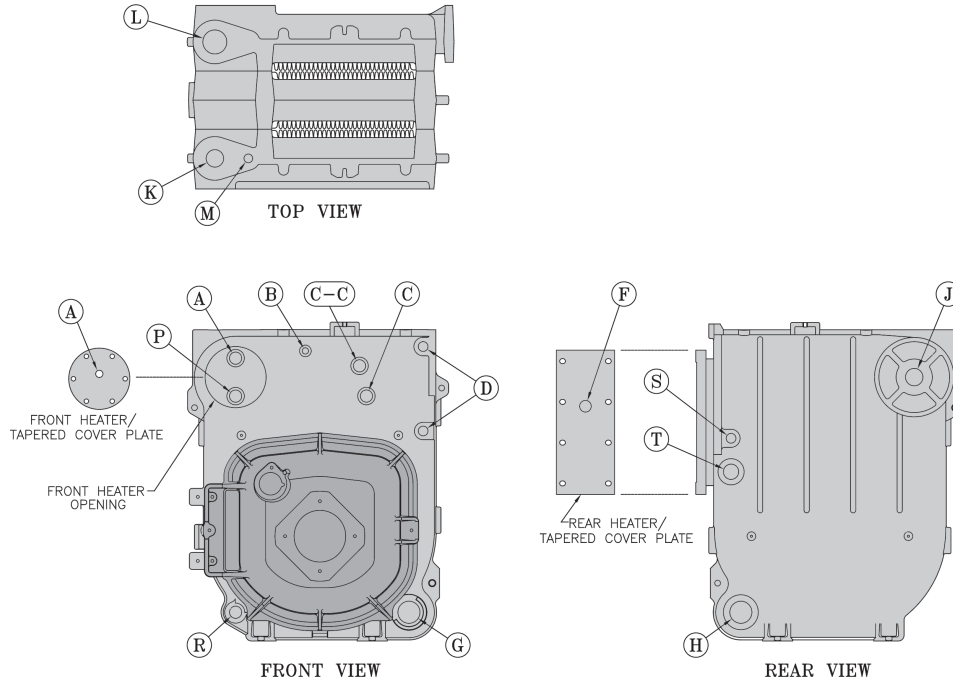

Figure 5: Boiler Tapping Locations and Usage (Knockdown Boilers Only)
Remove gauge, valve and plugs from those tappings to be used. Leave other tappings plugged or bushed according to Figure 5.
H. INSTALL TRIM. The following steam or water trim will be concealed or inaccessible after boiler jacket is installed, see Figure 5 for boiler tapping locations and usage.
2. Lower front section tapping "G" is used for standard return on water boilers, see Figure 5. If circulator (supplied with boiler) is to be mounted in return piping connected directly to 1 1/2" NPT boiler return tapping "G", use the piping arrangements outlined in steps a. thru e. as follows: (see Figures 14A and 14B)